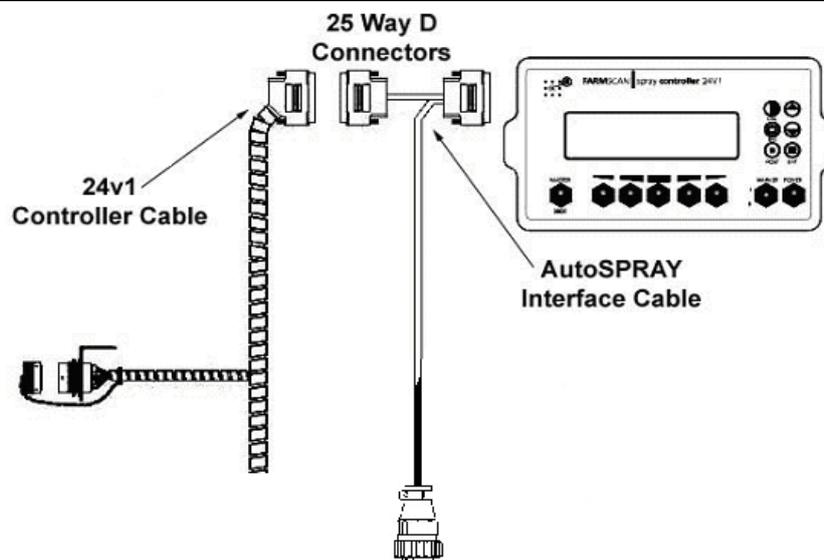

Figure 2: Schematic layout of typical AutoSPRAY installation
A schematic of the cable installation is shown in Figure 2.
4.	Connect the main Farmscan 24v1 controller cable connector, removed in Step1, to the mating 25 pin connector on the Farmscan 24v1 AutoSPRAY cable, as illustrated in Figure 2. Ensure that all retaining screws are firmly fastened, however excessive force should not be applied.